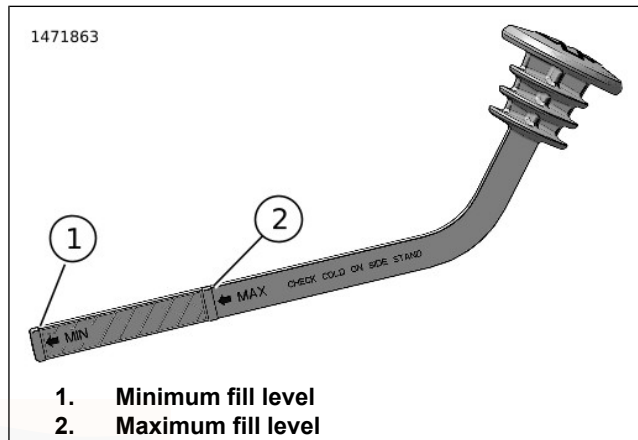

Figure 64. Coolant Filler Cap/Dipstick
4. See Figure 64. Check that coolant level is at the "MAX" line (2).